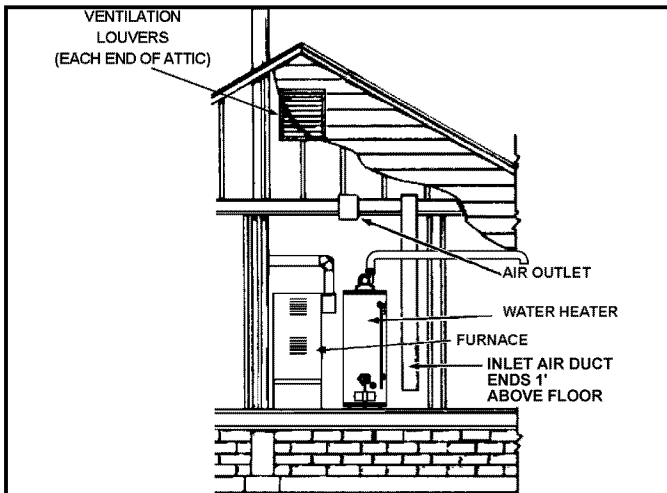

Figure 18.
2. When communicating with the outdoors through vertical ducts, each opening shall have a minimum free area of 1 square inch per 4,000 Btu/hr of total input rating of all equipment in the enclosure (see Figure 18).